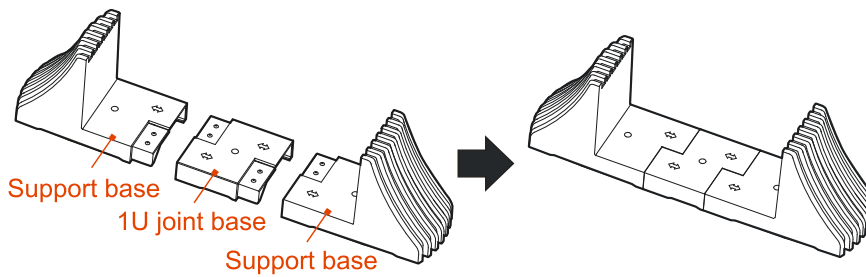

Figure3-1 Assemble support base
Step 1 Take out a pair of support base and 1U joint base, assemble them together, as shown in Figure3-1.